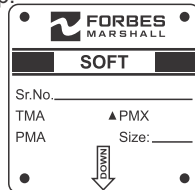

Figure 5: Single Orifice Float trap name plate
3. Ensure the availability of all components as shown in Figure 5, to ensure the operation of the trap.